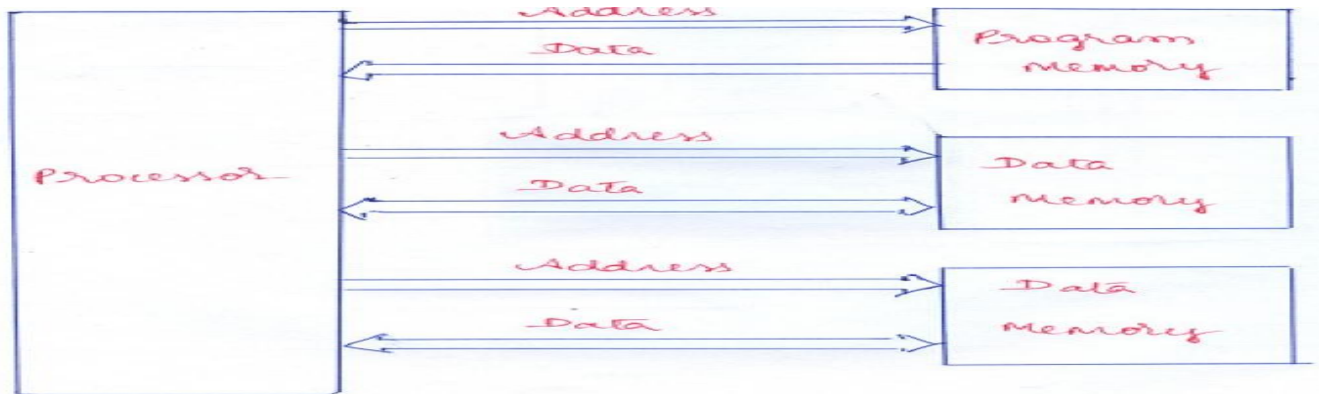

Fig 2.11 Harvard Architecture with Dual Data Memory
- This problem can be overcome by using two separate data memories for storing operands separately, thus in a single clock cycle both the operands can be fetched together (Figure 2.11).